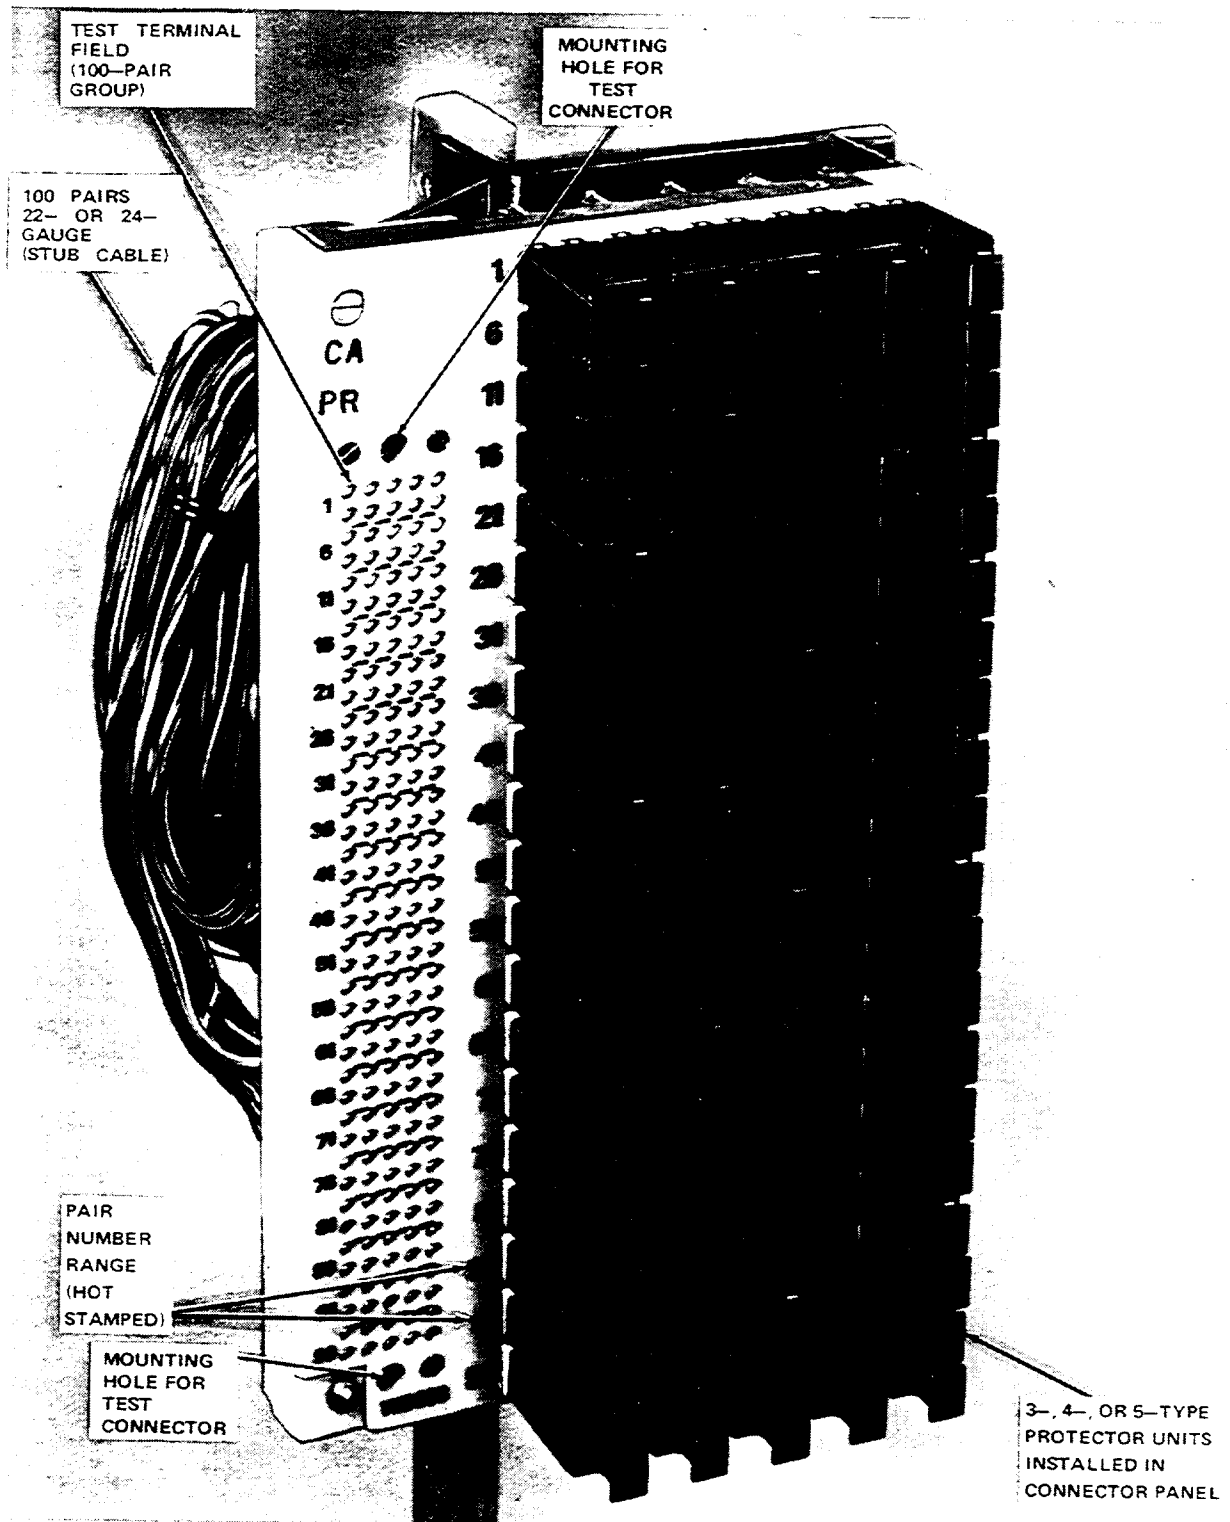

Figure 2—308-Type 2 Connector for use on Low Profile Double-Sided Conventional Protector Frame
2.03 The 308-type 2 connector (Figures 2 and 3) is a high density connector used to terminate outside plant cables on the ED97755-71 or modified ED97755-70 LPDPF (Low Profile Double Sided Protector Frames). This type is basically the same as the